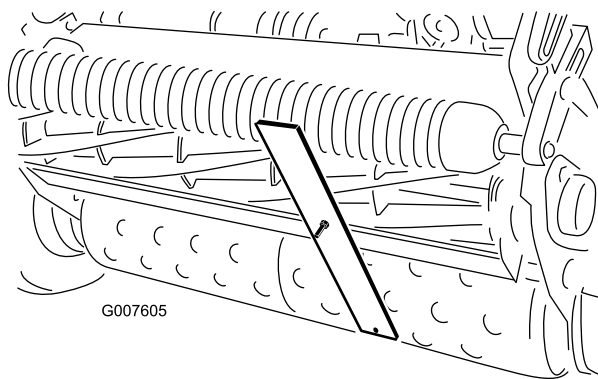

Figure 43
- Hook the screw head on the cutting edge of the bedknife and rest the rear end of the bar on the rear roller (Figure 43).